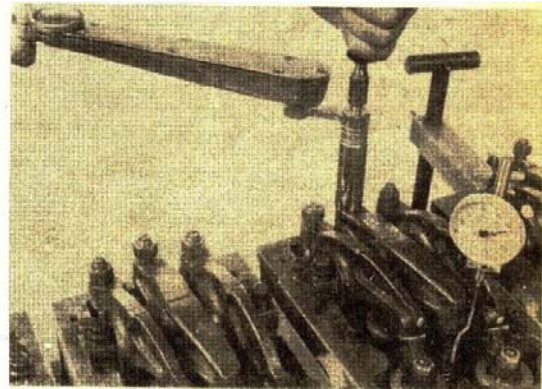

Fig. 14-67, Tighten the locknut with a ST-669 Adapter
7. Use the ST-669 Torque Wrench Adapter on the adjusting screw to tighten the locknut to 30 to 35 ft-lbs (41 to 47 Nom) torque. Fig. 14-67. If the torque wrench adapter is not used, hold the adjusting screw with a screwdriver and tighten the locknuts to 40 to 45 ft-lbs (54 to 61 Nom) torque.